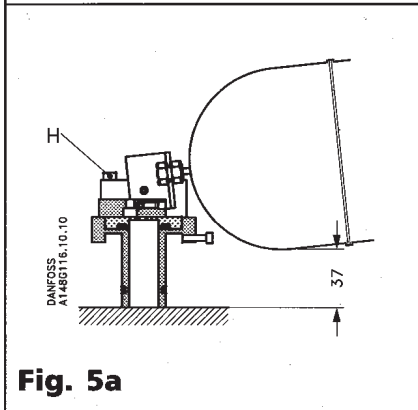

Fig. 5a
- 2) Position float as shown in fig. 5a, 37 mm (1 1/2") from the surface of the table. We recommend that you make a 37 mm (1 1/2") high chock to place under the float.
- 3) Untighten the 4 screws pos. H (fig. 5a).
- 5) When the slide is placed correctly, tighten the 4 screws pos H (fig.5a)